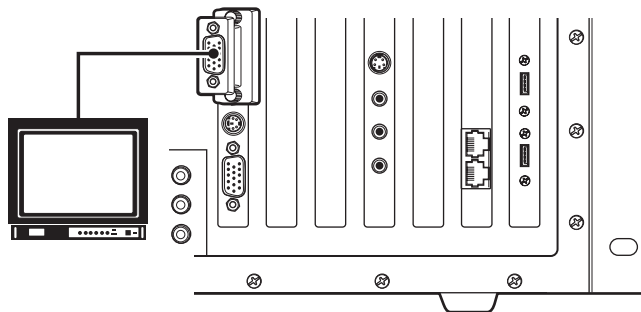

Figure 21. How to Connect a Single Monitor to a VMX300(-E) Workstation
- **Single-monitor systems:** If you are using just one monitor, use the top monitor input only (refer to Figure 21).